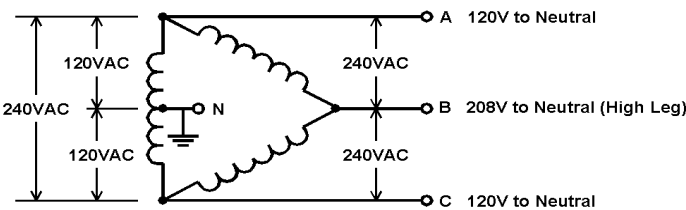

Fig 8 -High Leg Delta
Figure 8 shows a variation of the delta configuration that is widely used in North America, especially in older mixed residential and industrial areas, and in rural areas. One leg of the delta has a grounded center-tap that serves as the neutral for a single-phase 120/240VAC system, and 208 volts is available for certain industrial applications. See the Appendix for a more detailed discussion of this configuration and the quite severe hum and buzz problems it can cause.
- 120/208V/240V high leg Delta (Figure 8)